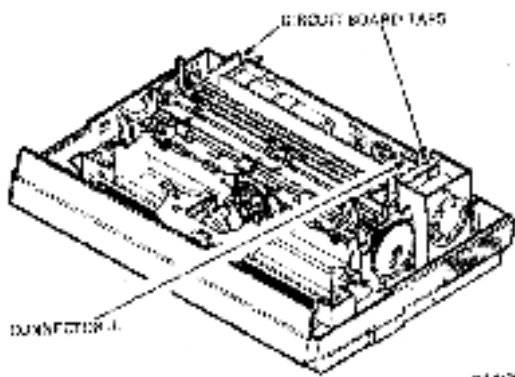

Figure 2.7 Power Supply PCB Removal
4. Disconnect the input power cable from connector J1 on power supply PCB (Figure 2-7).
When inserting the power supply PCB, line up the tabs on the PCB with the slots on the side of the card cage (Figure 2-7). The slots align the power supply PCB to its connector on the motherboard.